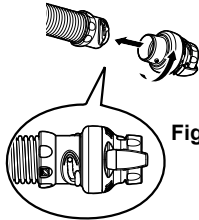

Figure 2
4. Attach the flow regulator valve to the end of the hose (Figure 2).